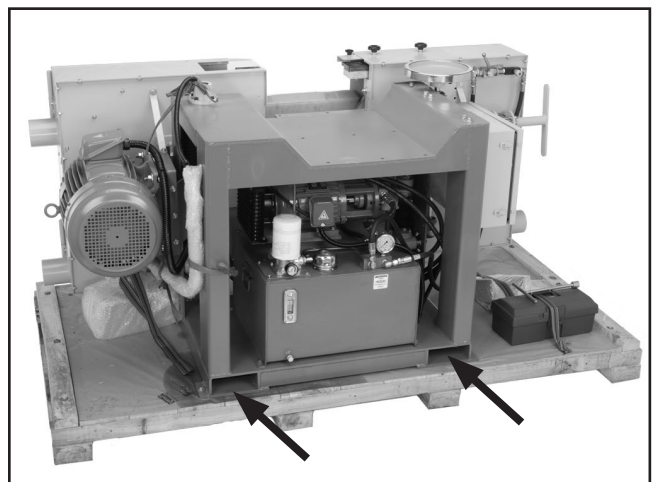

Figure 7. Forklift lifting points.
2. Slide the forklift forks into the forklifting points (shown in **Figure 7**), lift the resaw off of the pallet and move it to a permanent location.